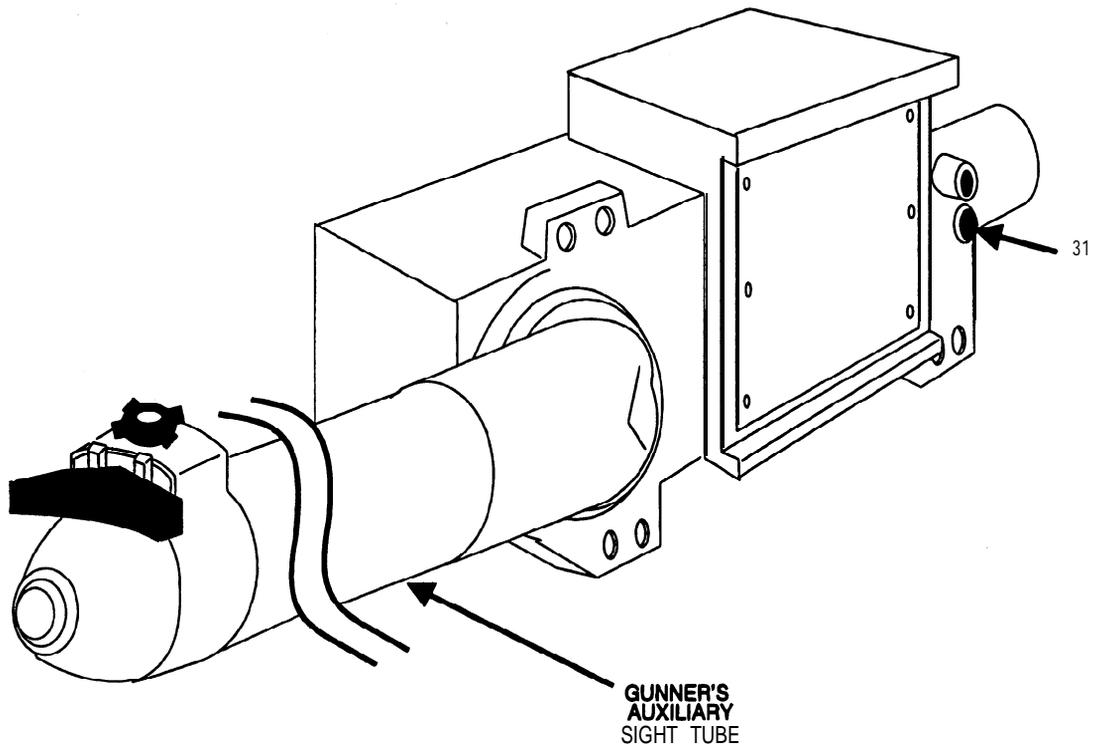

Figure 2-47. GAS Reticle Illumination Knob Connection
- b. Disconnect the actual tank connector **J1** on the far forward right side of the GAS telescope. (See Figure 2-47.)